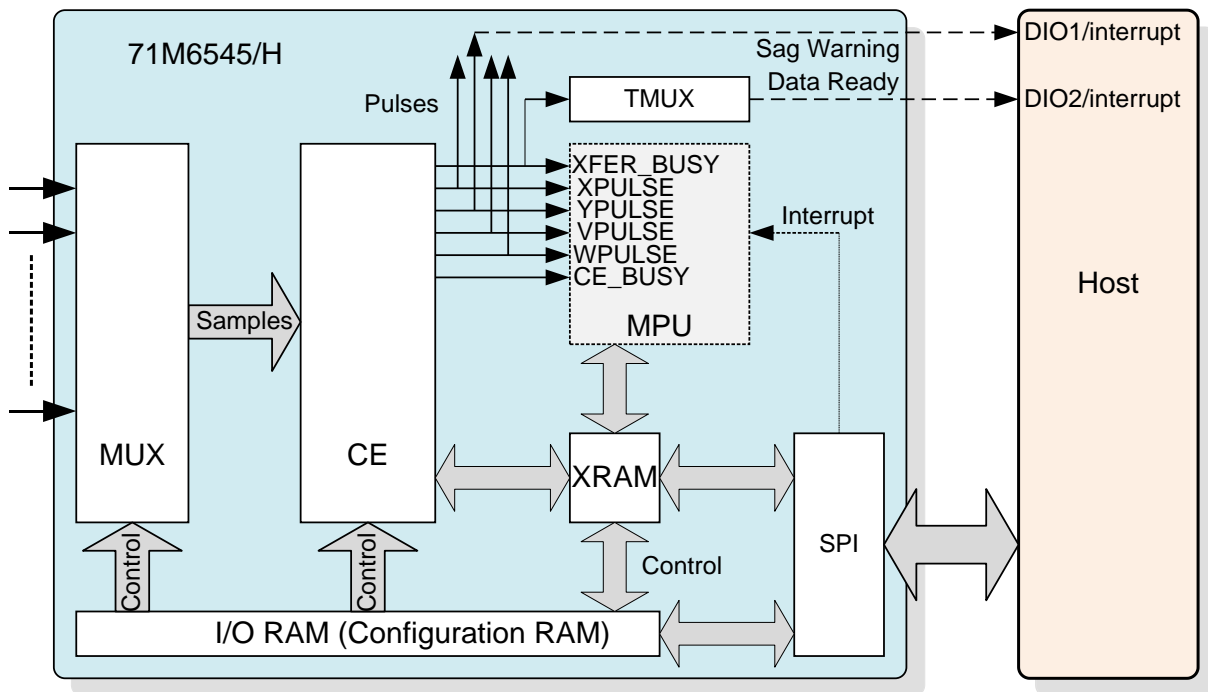

Figure 22: Data Flow
The data flow between the Compute Engine (CE) and the host is shown in Figure 22. In a typical application, the 32-bit CE sequentially processes the samples from the voltage inputs on pins IADC0-IADC1, VADC8 (VA), IADC2-IADC3, etc., performing calculations to measure active power (Wh), reactive power (VARh), A^2h , and V^2h for four-quadrant metering. These measurements are then accessed by the host via the SPI interface, processed further and stored and/or displayed. For example, to obtain the RMS current value in phase A, the host reads the *IOSQSUM_X* register of the CE, scales it with *VMAX*, *IMAX*, and the LSB, as given in the CE Interface description (see 5.4 CE Interface Description on page 99), and then performs a square-root operation. Similarly, momentary real power and reactive power available via the *WSUM_X* and *VARSUM_X* registers only have to be scaled by the host, while the apparent power has to be post-processed as follows:
Figure 22 illustrates the CE-to-host data flow.